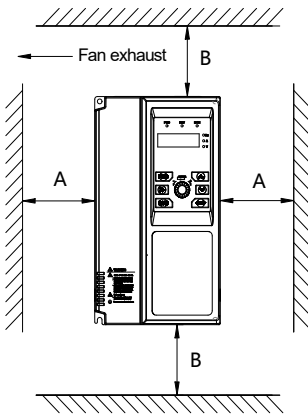

Figure 2-1 Installation Diagram
- (1) Generally, vertical installation shall be adopted.
- (2) Minimum installation intervals and distances are shown in Figure 2-1.